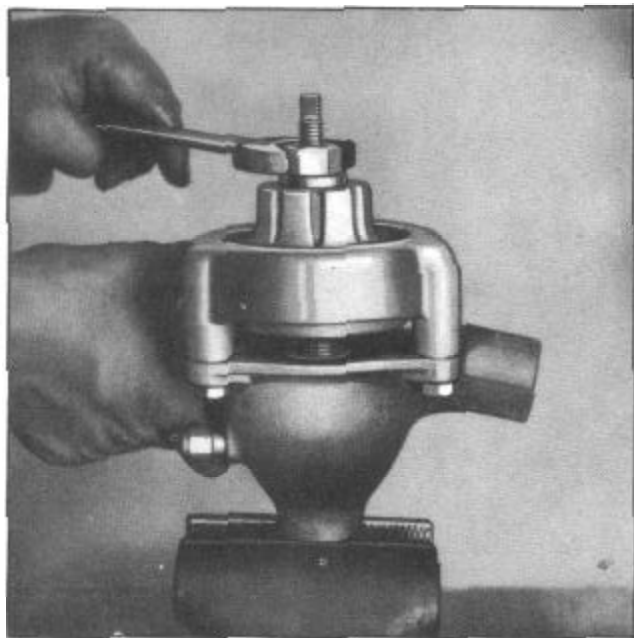

Figure 8--Removing the Rear Bushing
10. Screw the thumb screw (No.2) in place in the body and thread the bushing puller (No.5) into the rear bushing until the puller has taken a firm hold, as illustrated in Figure 8. Pull the rear bushing by turning the nut and holding the thumb screw in place at the same time.